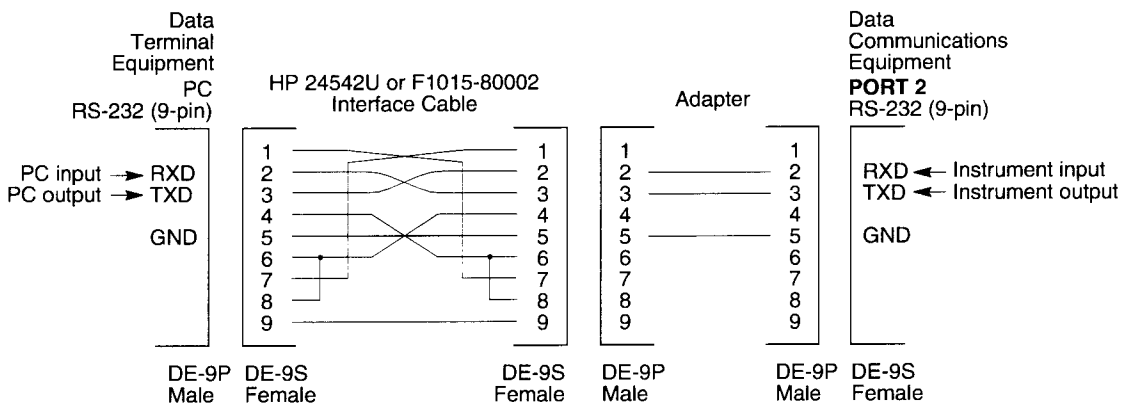

Figure 2-6. HP 24542U Interface Cable and a Straight-through Adapter Combination for Laptop/Palmtop and PORT 2 Connection
*A “straight-through” type of 9-pin male-to-male adapter should be used with the HP 24542U or F1015-80002 interface cables when connecting a laptop, Omni Book, or palmtop to the HP 59551A Module’s front-panel **PORT 2** as shown in Figure 2-6. That is, pins 2, 3, and 5 of the adapter should be straight-through pin connections (no crossover pins).*